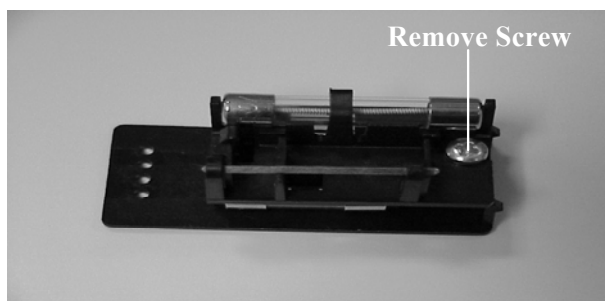

Figure 3.11
7. Next remove the Phillips screw that holds the fuse holder and turn the holder around so that the two 1 amp fuses face towards the socket. See Figure 3.11